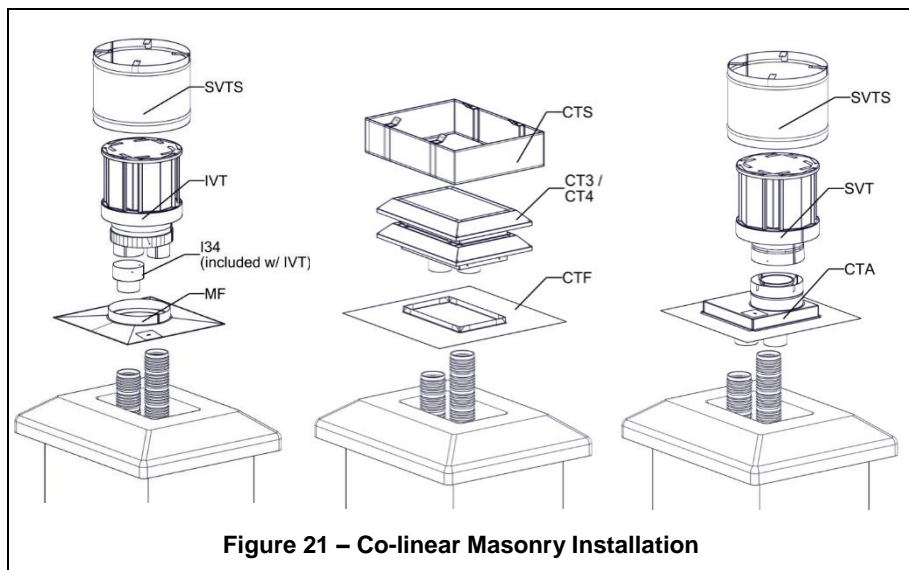

Figure 21 – Co-linear Masonry Installation
Additional rigid EXCELDirect® lengths can be added on top of the CTA to increase the system height if necessary (Figure 21).
Available for 3" or 4" exhaust, the Traditional Co-linear Termination is rectangular and resembles a traditional masonry cap (Figure 21). Installation of the CT requires a flashing (CTF, CTFC).
The Insert Vertical Termination is a vertical termination cap with a built-in co-linear adapter at the base. Installation of the IVT requires a flashing (MF, MFR, MFC). The IVT includes connectors for appliances that use either 3" or 4" exhaust (Figure 21).
4. Install the flashing on the top of the chimney. Seal the flashing to the chimney with silicone sealant and masonry bolts before proceeding (Figure 21).
5. Attach the two flex liners to the outlets with hose clamps or screws. High temperature sealant is recommended for the liner (and increaser) that will be used for exhaust (Figure 21).